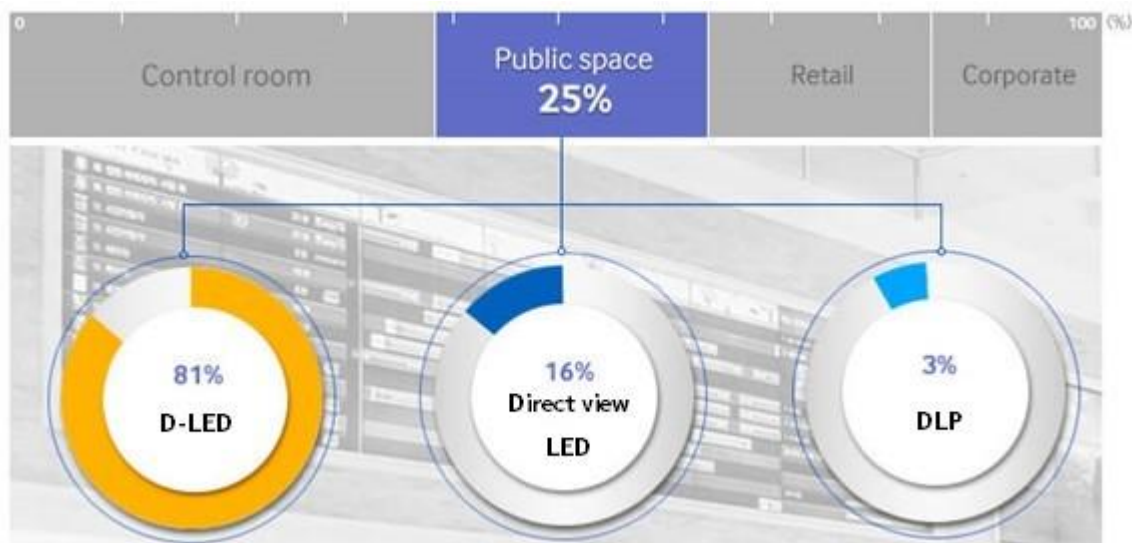

Figure 4: Distribution by the panel type and application in public spaces (Source: [samsungdisplay.com](http://samsungdisplay.com))
*As presented on Figure 4, D-LED technology dominates the video wall market because of the greater balance between its performance characteristics and total cost of ownership. D-LED*
Data presented on Figure 4 clearly supports adoption and implementation of D-LED based video walls displays as optimal one for implementing virtual museum in Port of Zadar Authority building.